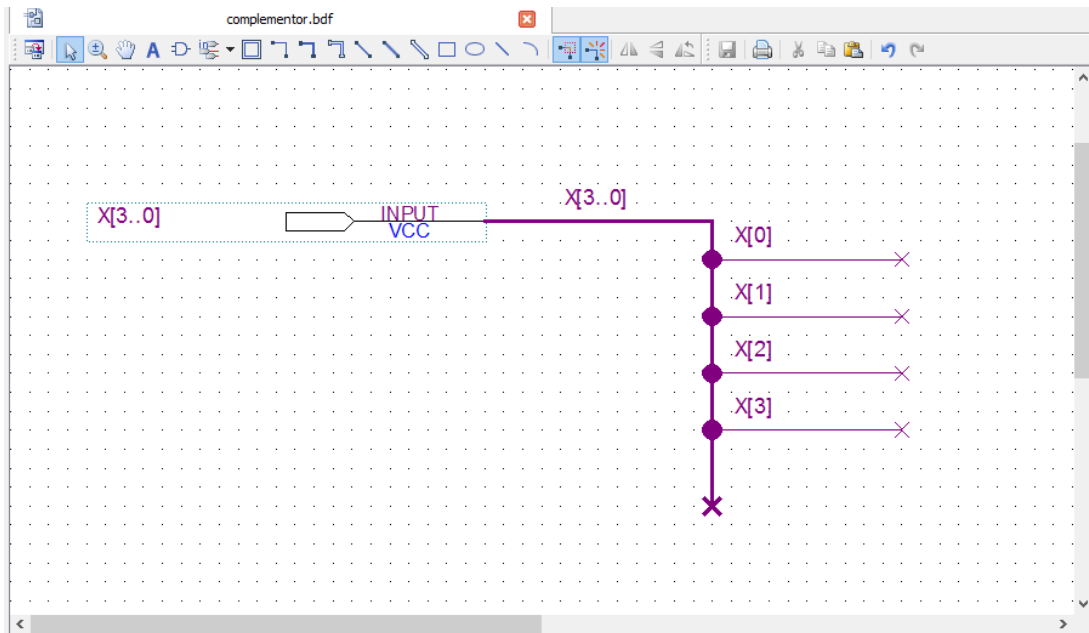

Figure 4.13 4-bit bus with its input pin and connections
27. Now connect the inputs of your design to the bus, and name the nets properly as X[1], X[2] etc. as its shown on Figure 4.13.